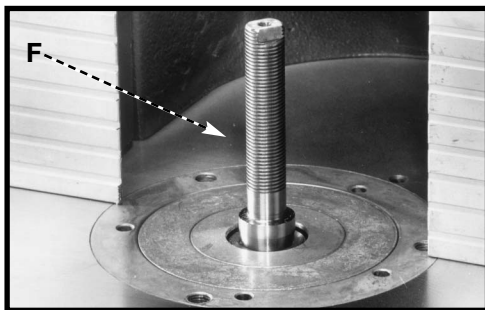
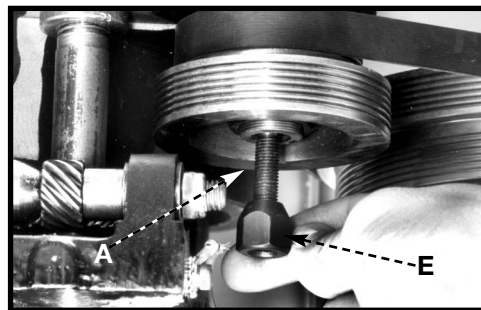

Fig. 10
Fig. 11
4. Use a wrench on the flats (F) Fig. 10 to hold the spindle while tightening the nut (E) Fig. 11 on the bottom of the tie rod.